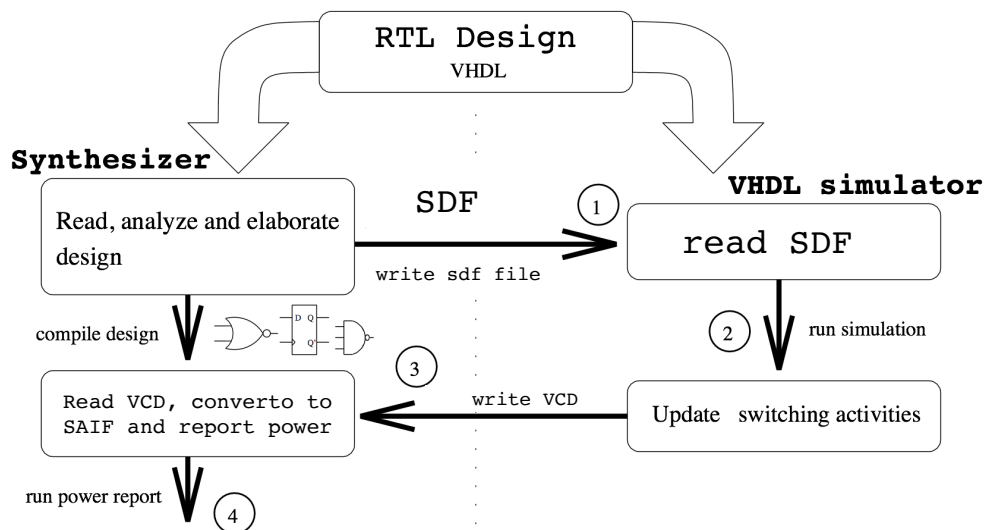

Figure 3.2:
Let's consider the overall annotation process in figure 3.2: The process is inclusive of two parts, one in the VHDL simulator and another in the design compiler (Synopsys synthesizer). First (1), after having analyzed, elaborated and compiled the design, the synthesizer can generate a forward annotation SDF file which accounts for the names of the netlists on the design. The SDF or Standard Delay Format file contains the delays of your circuit.